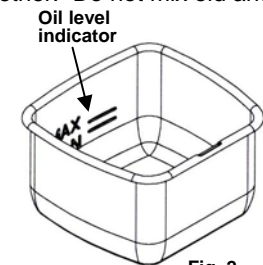

Fig. 2
- The oil level must always be maintained between the minimum and the maximum levels marked inside the oil container. Check the oil level before each use. For best results, keep the oil close to the maximum level (8 cups / 2 liters). (Fig. 2)